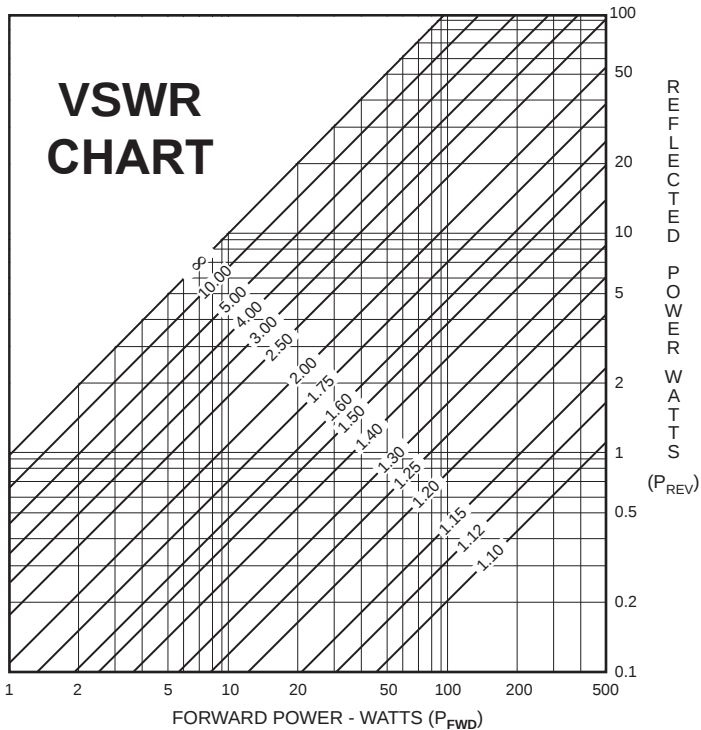

Figure 7-1: VSWR Chart
2.	Refer to the VSWR Chart on the rear of the instrument or Figure 7-1. Apply the readings from Step 1 to the chart.
- 7.02** Figure 7-1 (below) shows a nomograph for estimating VSWR from the measured incident and reflected power. See 5.05 for calculation procedures.